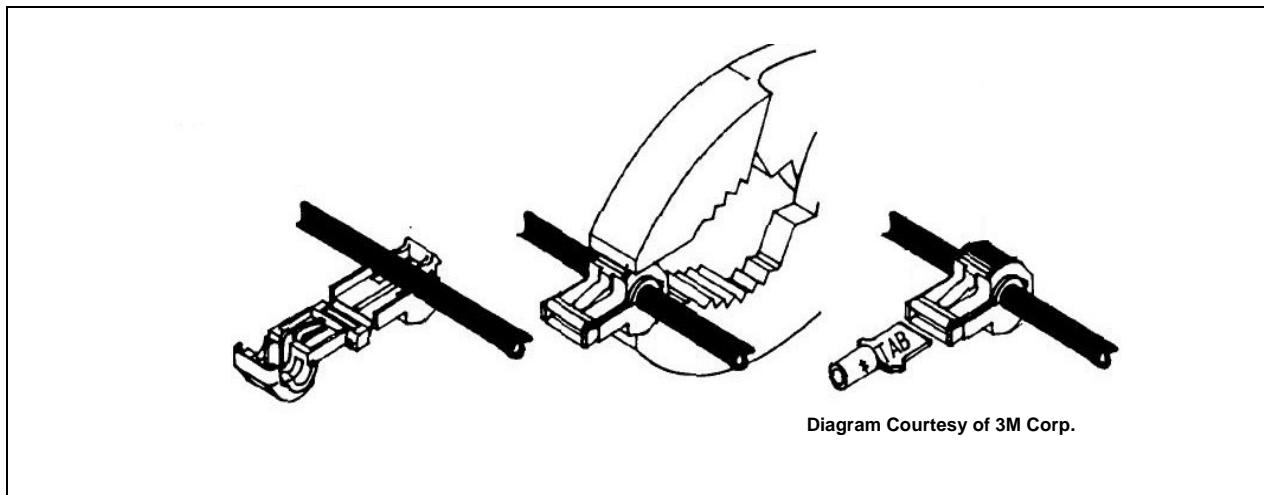

Figure 9-5: Attaching T-Tap Quick-Disconnect Terminals
2. Route the white wire of the Control Head's DC Power Cable from the back of the head to an area near the switched ignition power source. At the back of the head, be sure to maintain a cable service loop of at least six (6) inches.
10. Attach the selected T-tap quick-disconnect terminal by fitting the wire into its wire groove and snapping the two halves together with a pair of pliers as shown in Figure 9-5.